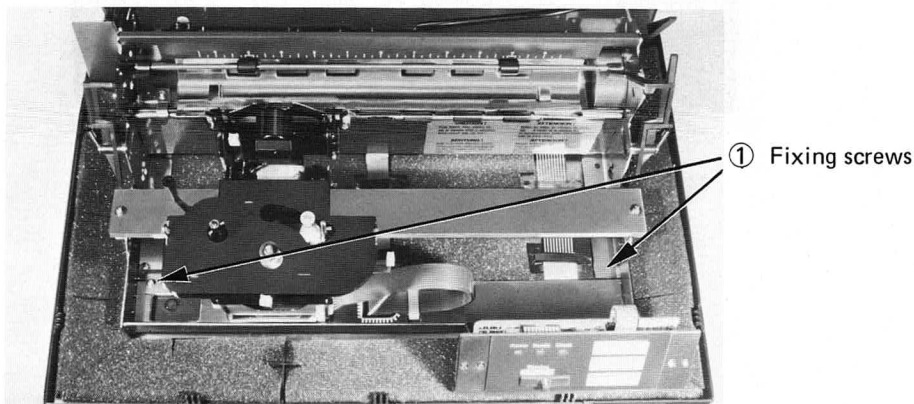

Fig. 5.32
- Step 1. Detach the four tapes fixing the flat cables of the carriage and operation panel from the bottom cover. (Fig. 5.32)
- Step 2. Remove two fixing screws ①. (Fig. 5.32)